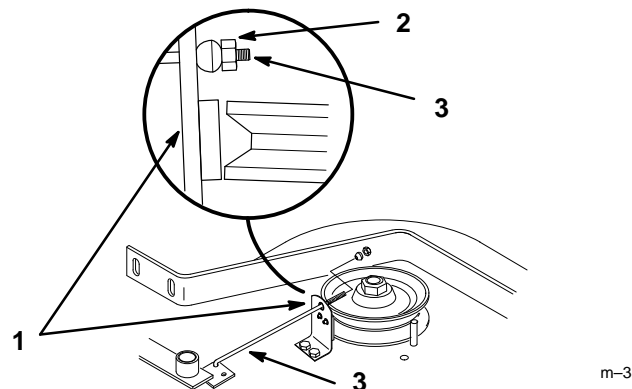

Figure 35
2. Loosen nut at the brake spring so pad rubs against pulley. Then tighten nut until pad just clears the pulley (Fig. 35).
3. Disengage blade control (PTO) lever. Brake rod(s) must be loose (Fig. 35).